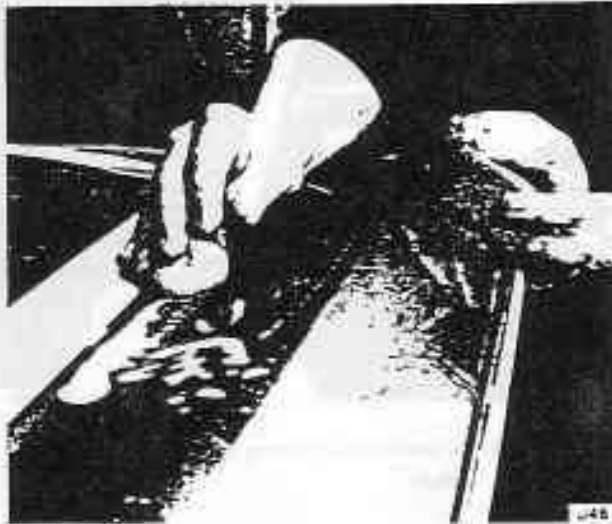

Fig. S17-11 Hand flatting a curved area using a soft pad
1. Hand flatting should always be used on areas with curves or complex contours. Use a soft cloth pad inside wet or dry abrasive paper (see fig. S17-11).